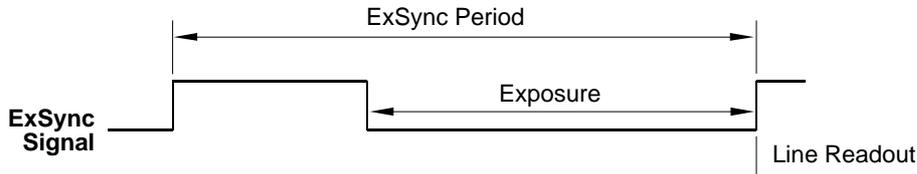

Fig. 23: ExSync Level Controlled Mode
- In **ExSync level controlled** mode, line acquisition begins on the rising edge of the ExSync signal. The exposure time is determined by the time between the falling edge of ExSync and the next rising edge. The pixels are exposed and charge is accumulated only when ExSync is low. The pixel values are read out of the sensor on the rising edge of the ExSync signal (see Figure 23).